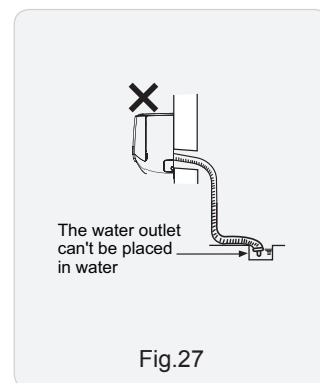

Fig.27
(3) The water outlet Can't be placed in water in order to drain smoothly.(As show in Fig.27)